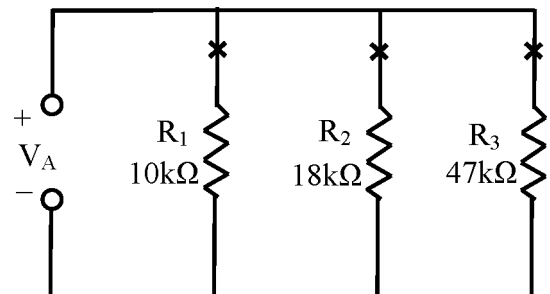

Figure 18-1
1. Connect the circuit as shown in Figure 18-1.
2. Apply 12 volts to the circuit. Break the circuit at the appropriate "X" in Figure 18-1 to measure each of the branch currents. Record the results below.